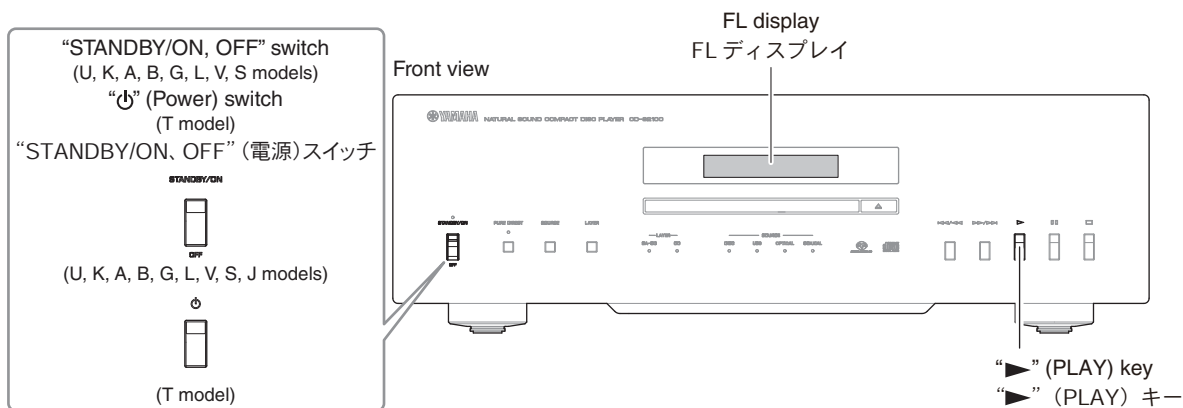

Fig. 2
5. Press the "▶" (PLAY) key, and then writing of the firmware is started. (Fig. 2)
5. "▶" (PLAY) キーを押し、書き込みを開始します。(Fig. 2)